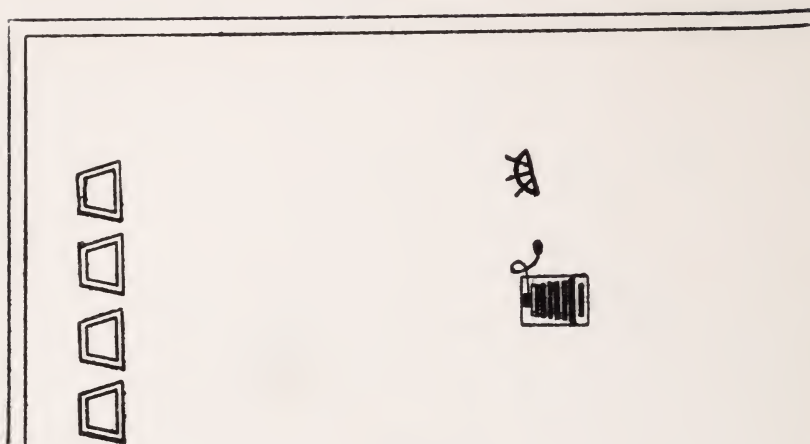
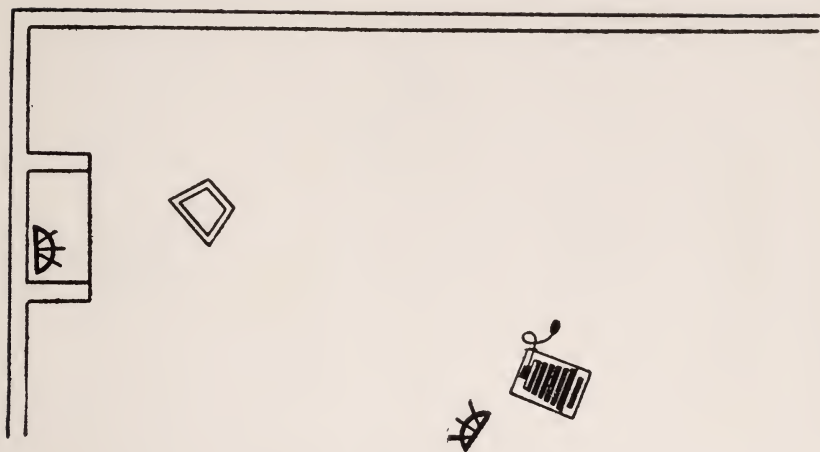

Fig. 18
Fig. 19
**Other Lightings.**— Fig. 18 suggests an arrangement for a small group, the lamp being put as near the sitters as possible without appearing in the picture. The most important point here is to get the light high, so that the direction will be 45 degrees, as already noted. Most failures in group work are caused by having the lamp too low. A lamp with a folding metal stand extensible to a good height is almost a necessity if much group work is undertaken. Fig. 19 is a firelight effect, the flash being put into the fireplace far enough back to be out of sight of the lens. A second (smaller) flash is employed close to the camera to throw some light into the shadows cast by the main flash and thus avoid